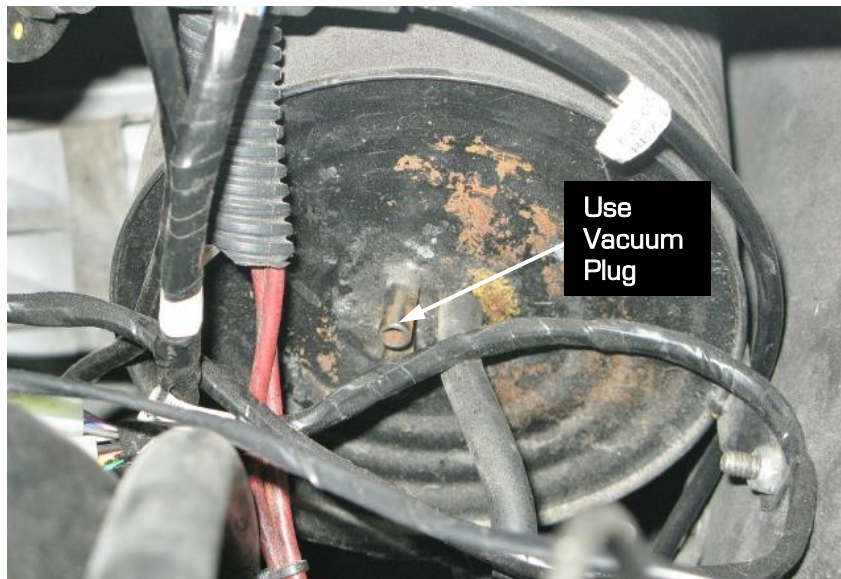

Figure 6 – Replace Hoses on Vacuum Tank with Plugs
6. Remove the vacuum actuator system from the vehicle along with any tanks, hoses, etc. as they will no longer be needed. **NOTE:** If you have a 1968-72 Corvette and are still using the stock wiper system, you will still need to keep the wiper door vacuum hoses and tank to operate the wiper door. You will need to use vacuum plugs on the vacuum tank or tube where you have removed the hoses for the headlight actuators (Figure 6).